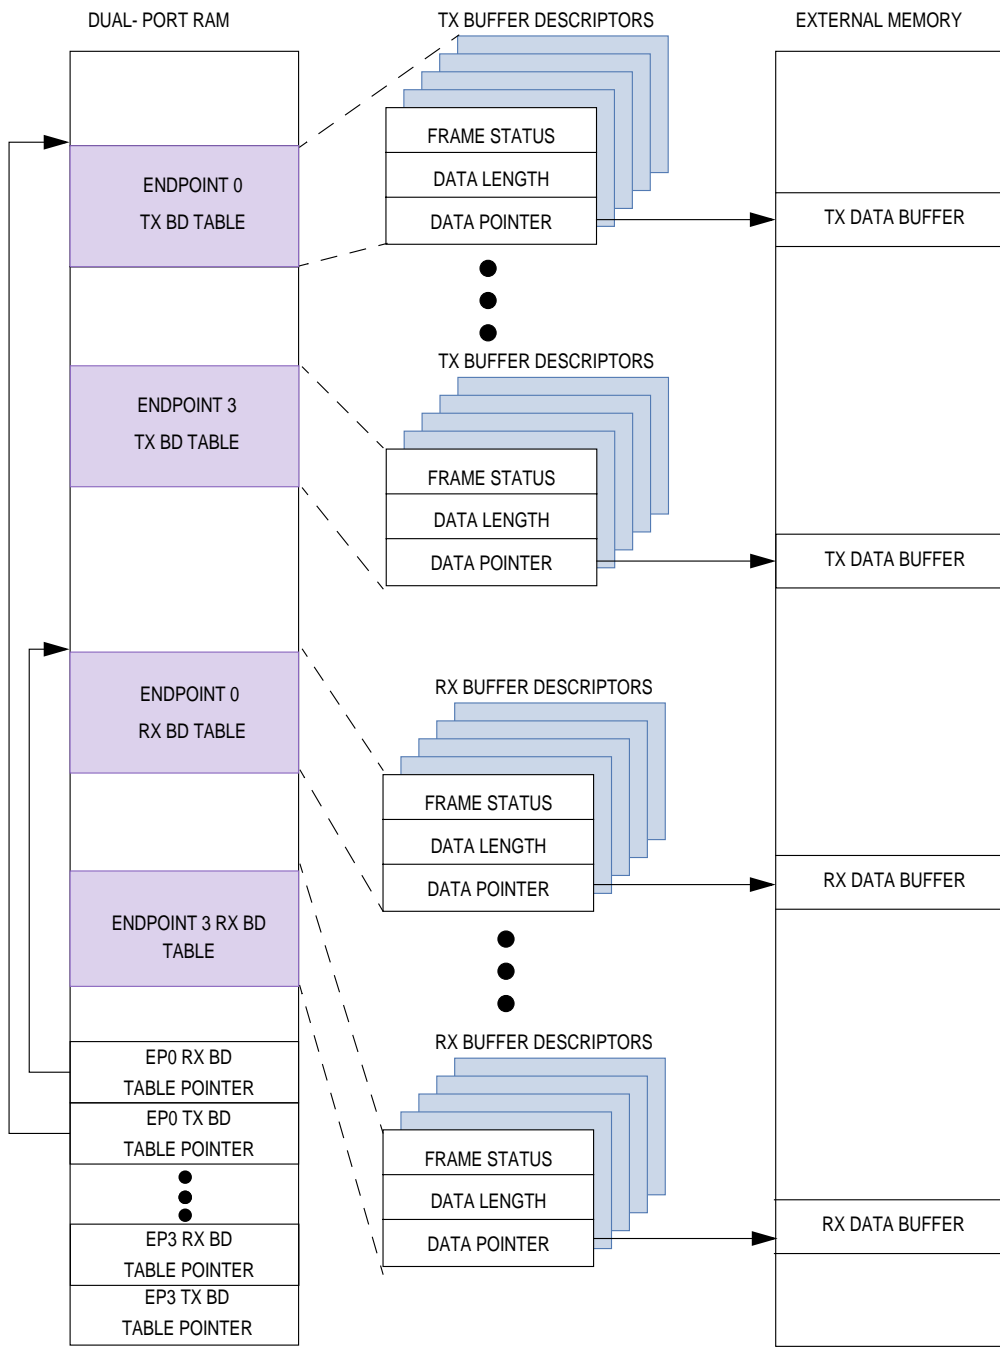

Figure 16-114. USB Buffer Descriptor Ring
**16.10.8.7 USB BUFFER DESCRIPTOR RING.** The data associated with the USB channel is stored in buffers that are referenced by buffer descriptors organized in buffer descriptor rings located in the dual-port RAM. These rings have the same basic configuration as those used by the serial communication controllers and serial management controllers. There are four separate transmit buffer descriptor rings and four separate receive buffer descriptor rings for each endpoint, as illustrated in Figure 16-114.